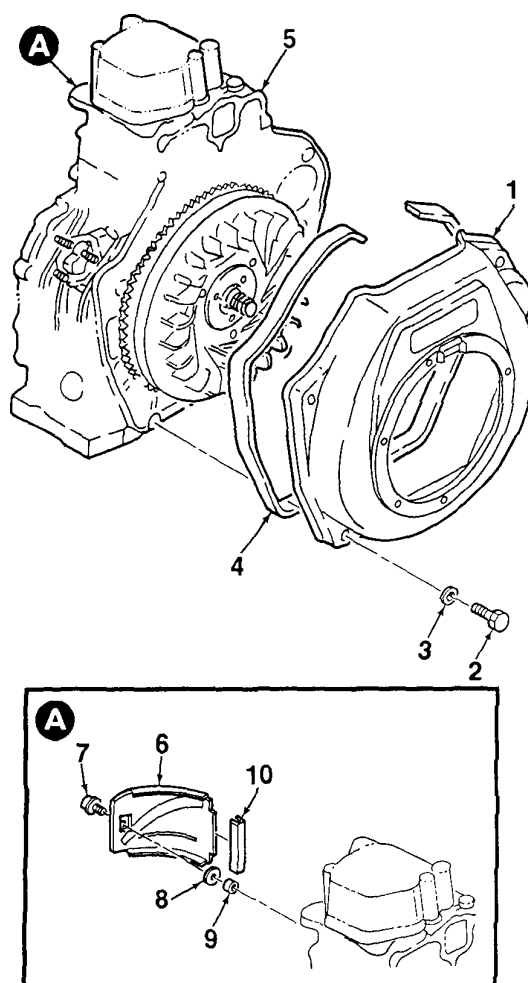

Figure 3-3. Flywheel Housing Removal
1. Remove flywheel housing (1, Figure 3-3) from cylinder block (5) by removing four screws (2) and washers (3). Remove seal (4).
2. Remove the cylinder head fin cover (6) by removing screw (7), grommet (8), and collar (9). Remove seal (10).
1. Inspect flywheel housing (1, Figure 3-3) and cylinder fin cover (6) for cracks, deformation, or obvious damage. Replace if damaged.
1. Install seal (10, Figure 3-3) onto cylinder head fin cover (6). Install cover using screw (7), grommet (8), and collar (9).
2. Install seal (4) onto flywheel housing (1).
3. Mate flywheel housing (1) to cylinder block (5). Secure using four screws (2) and washers (3).